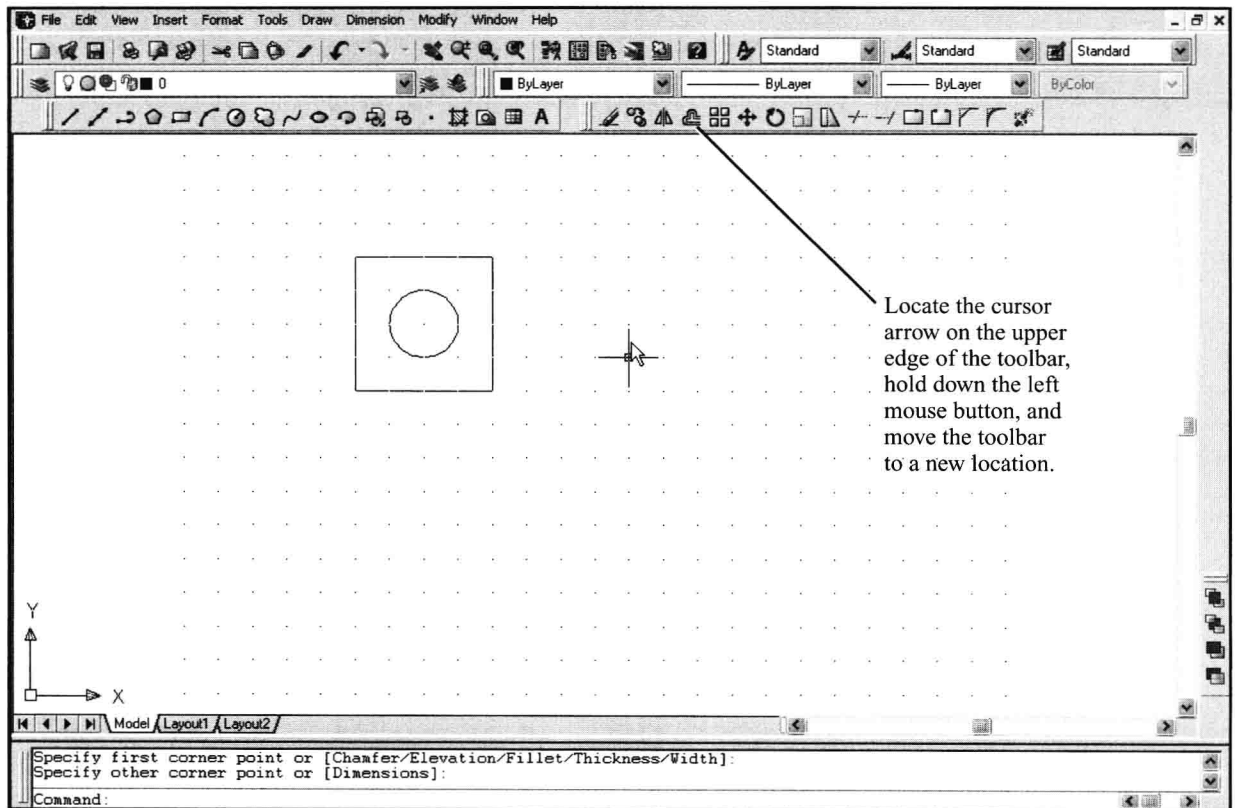
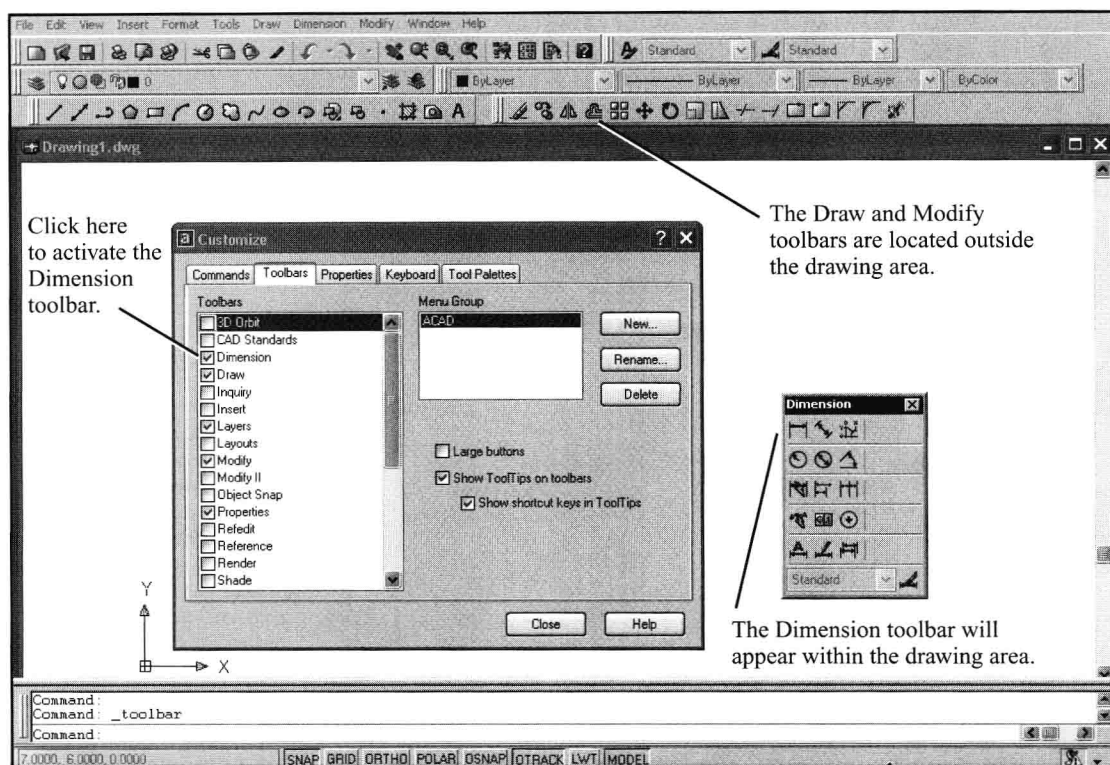

Figure 1-2
Figure 1-5
The large open area in the center of the screen is called the *drawing screen*, or *drawing editor*. The two rectangular boxes of command icons located along the left edge of the drawing screen are the Draw and Modify toolbars. They can be moved around the screen as shown in Figure 1-2.
See Figure 1-2.
2. Move the reshaped toolbar to its original location along the left side of the drawing screen using the procedure outlined in Figure 1-2.
The Dimension toolbar will appear. See Figure 1-5. Any toolbar can be moved or have its shape changed as described in Figures 1-2 and 1-3.
Figure 1-5 shows the Draw and Modify toolbars docked horizontally at the top of the drawing screen. The Dimension toolbar will initially appear within the drawing area of the screen, as will any other toolbar activated. Toolbars can then be moved to different locations as explained. If the toolbar is located close to either the top or sides of the drawing screen, it will blend into the area surrounding the drawing area and will no longer be within the drawing area.